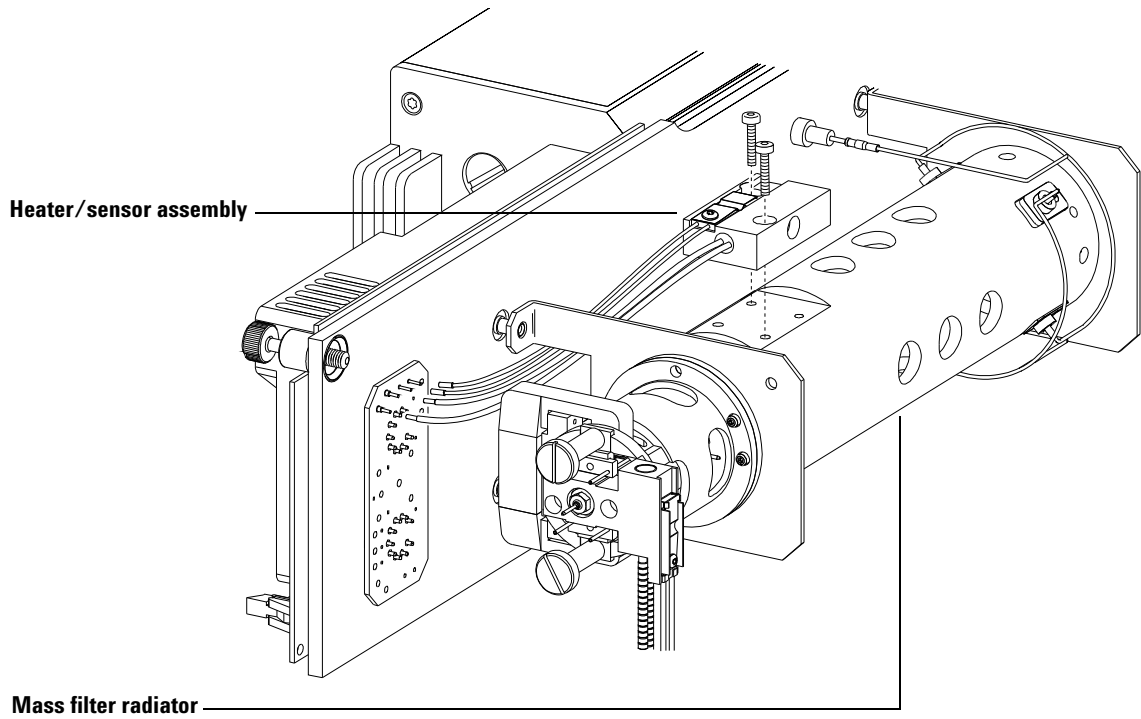

Figure 18 Mass filter heater and sensor
- 1 Unpack the new mass filter heater assembly (Figure 18). The heater, temperature sensor, and heater block are already assembled.